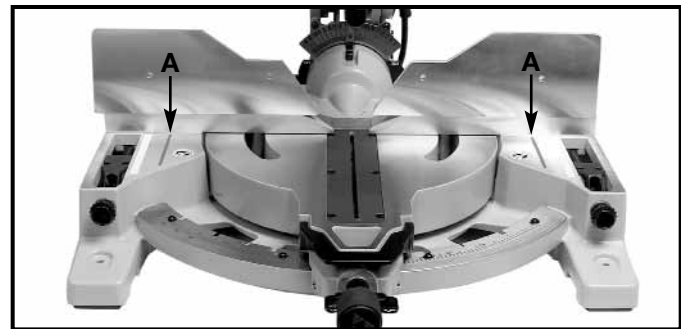

Fig. 21
⚠ WARNING THE AREA INSIDE THE TWO RED LINES (A) FIG. 21 ON THE TABLE IS DESIGNATED AS A HAZARD ZONE. **NEVER** PLACE YOUR HAND(S) INSIDE THE "TABLE HAZARD ZONE" (WITHIN THE RED LINES) WHILE THE TOOL IS BEING OPERATED. CLAMP ALL WORKPIECES WHICH WOULD CAUSE YOUR HAND(S) TO BE WITHIN THE RED LINES.
⚠ WARNING Keep your hands out of the hazard zone while operating the saw. If the size of the workpiece would cause your hand to be inside the table hazard zone (see section “**TABLE HAZARD ZONE**” SEE FIG. 21), use a clamp to secure the workpiece.